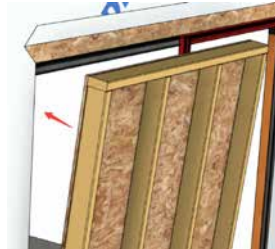

Fig PKT 7
- Install the exterior pocket wall (Fig PKT 7).